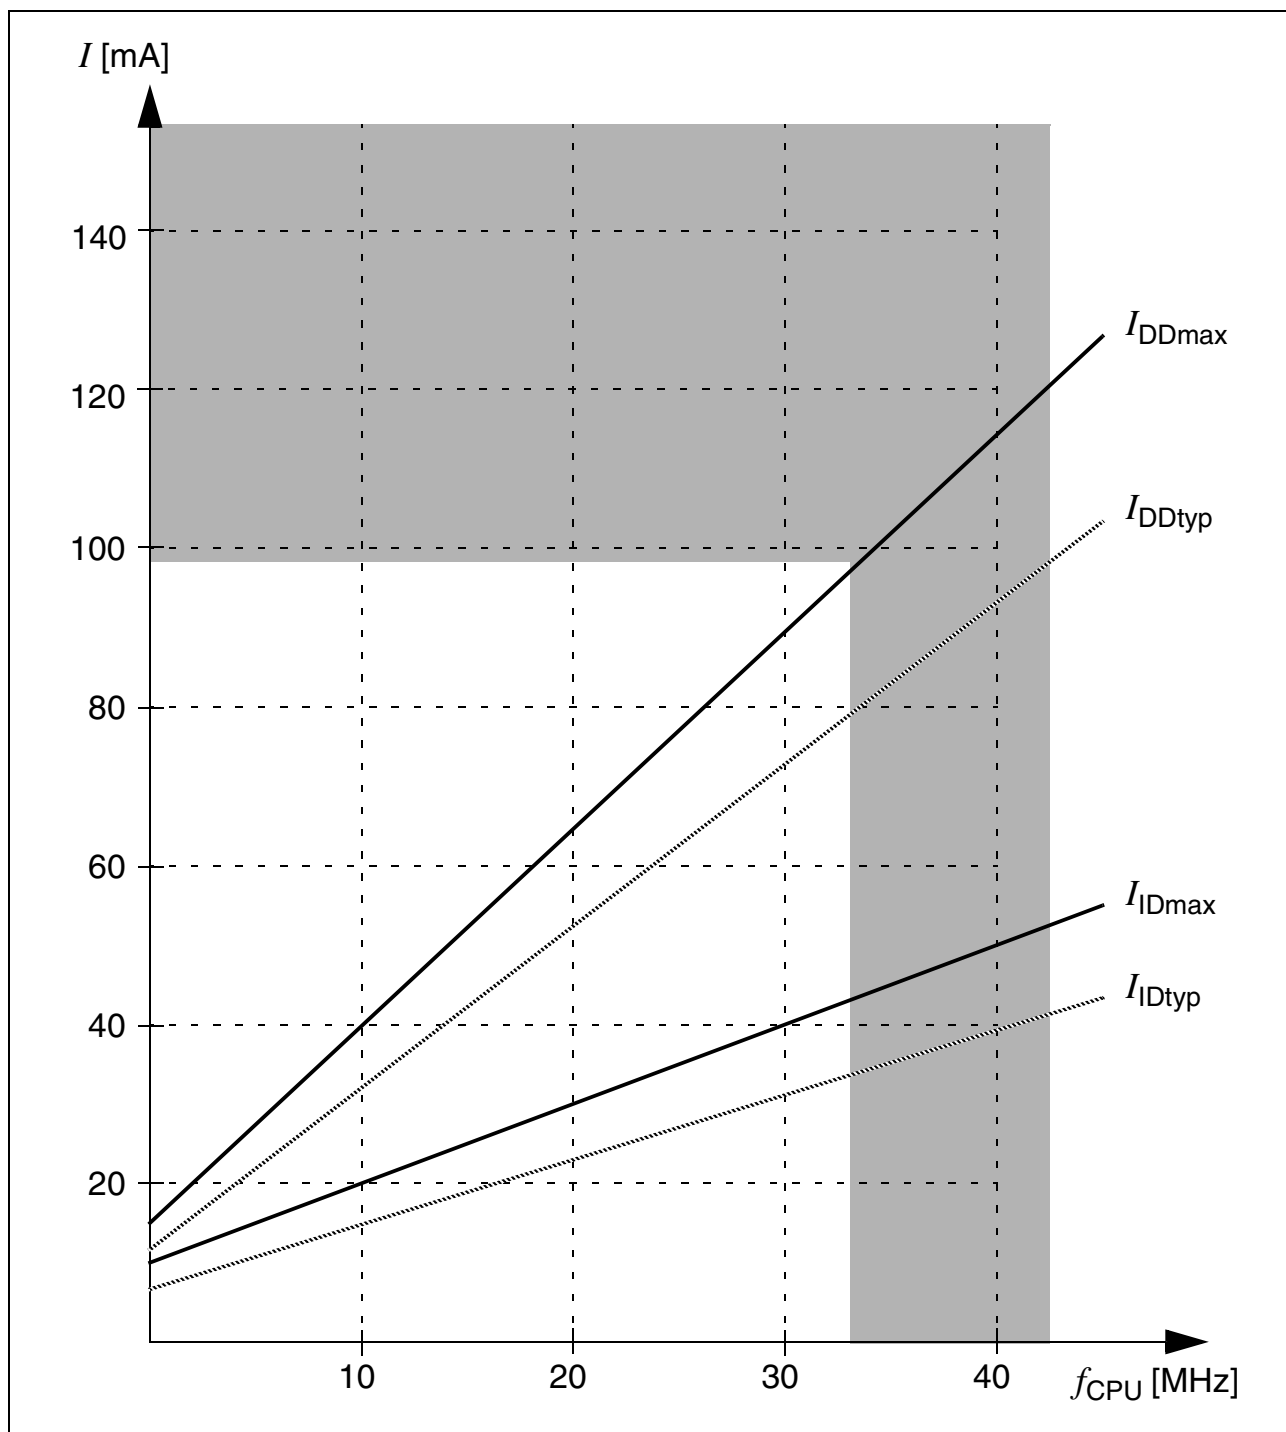

Figure 8 **Supply/Idle Current as a Function of Operating Frequency**
- ¹⁾ The supply current is a function of the operating frequency. This dependency is illustrated in Figure 8. These parameters are tested at V_{DDmax} and maximum CPU clock with all outputs disconnected and all inputs at V_{IL} or V_{IH} .